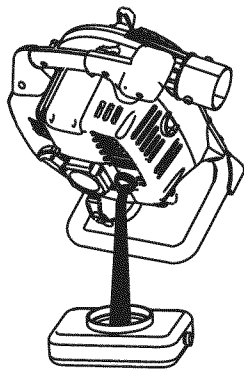

Fig. 17
3. Pour the oil out of the oil fill hole and into a container by tipping the unit to its side (Fig. 17). Allow ample time for complete drainage.